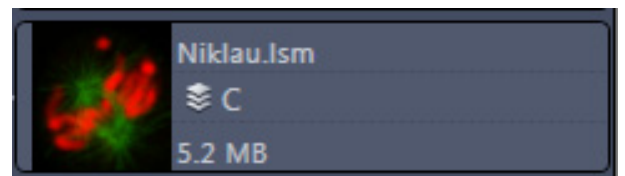

Fig. 7-10 2 Ch. Z-Stack image
- Example of a 2 Ch. Z-Stack displayed with a small thumbnail in the Open Images section (Fig. 7-10).